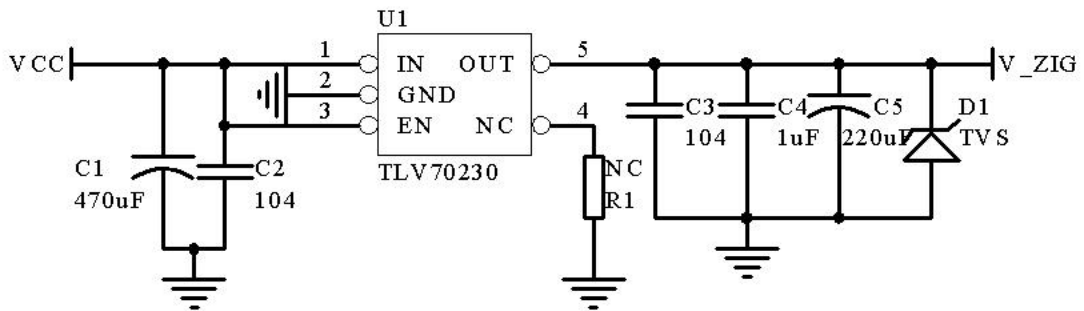

Figure 5-3 Reference circuit for power supply
- 2, Ipc as host controller: F8913 and ipc through the RS485 bus is linked together, need to use level conversion chips for level conversion (such as SP3485), as shown in figure 5-3.